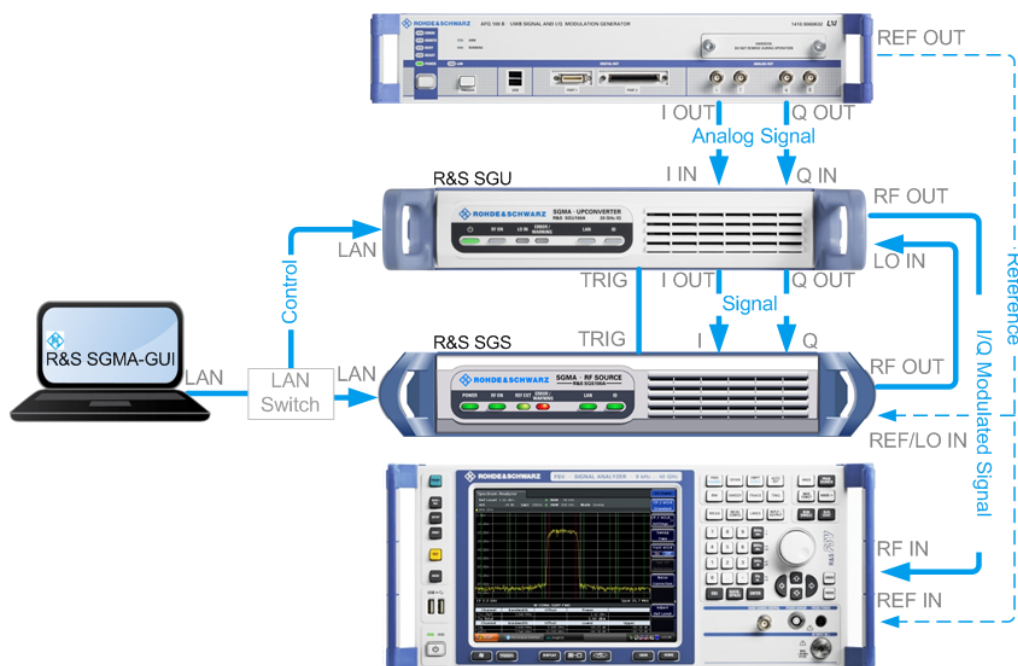

Figure 9-1: Example of the test setup
The Figure 9-1 shows an example of the test setup.
1. Connect the test equipment as shown on Figure 9-1: